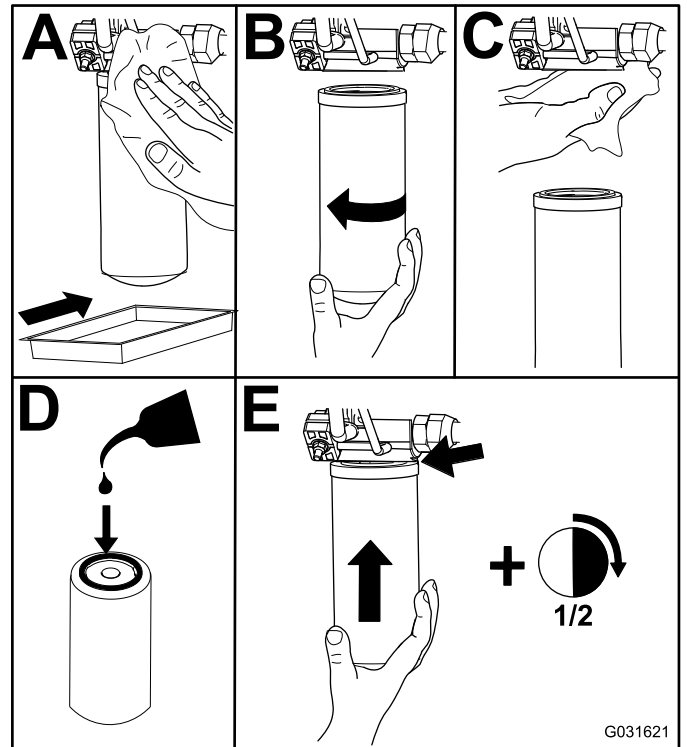

Figure 118
- Replace the hydraulic filters (Figure 118).